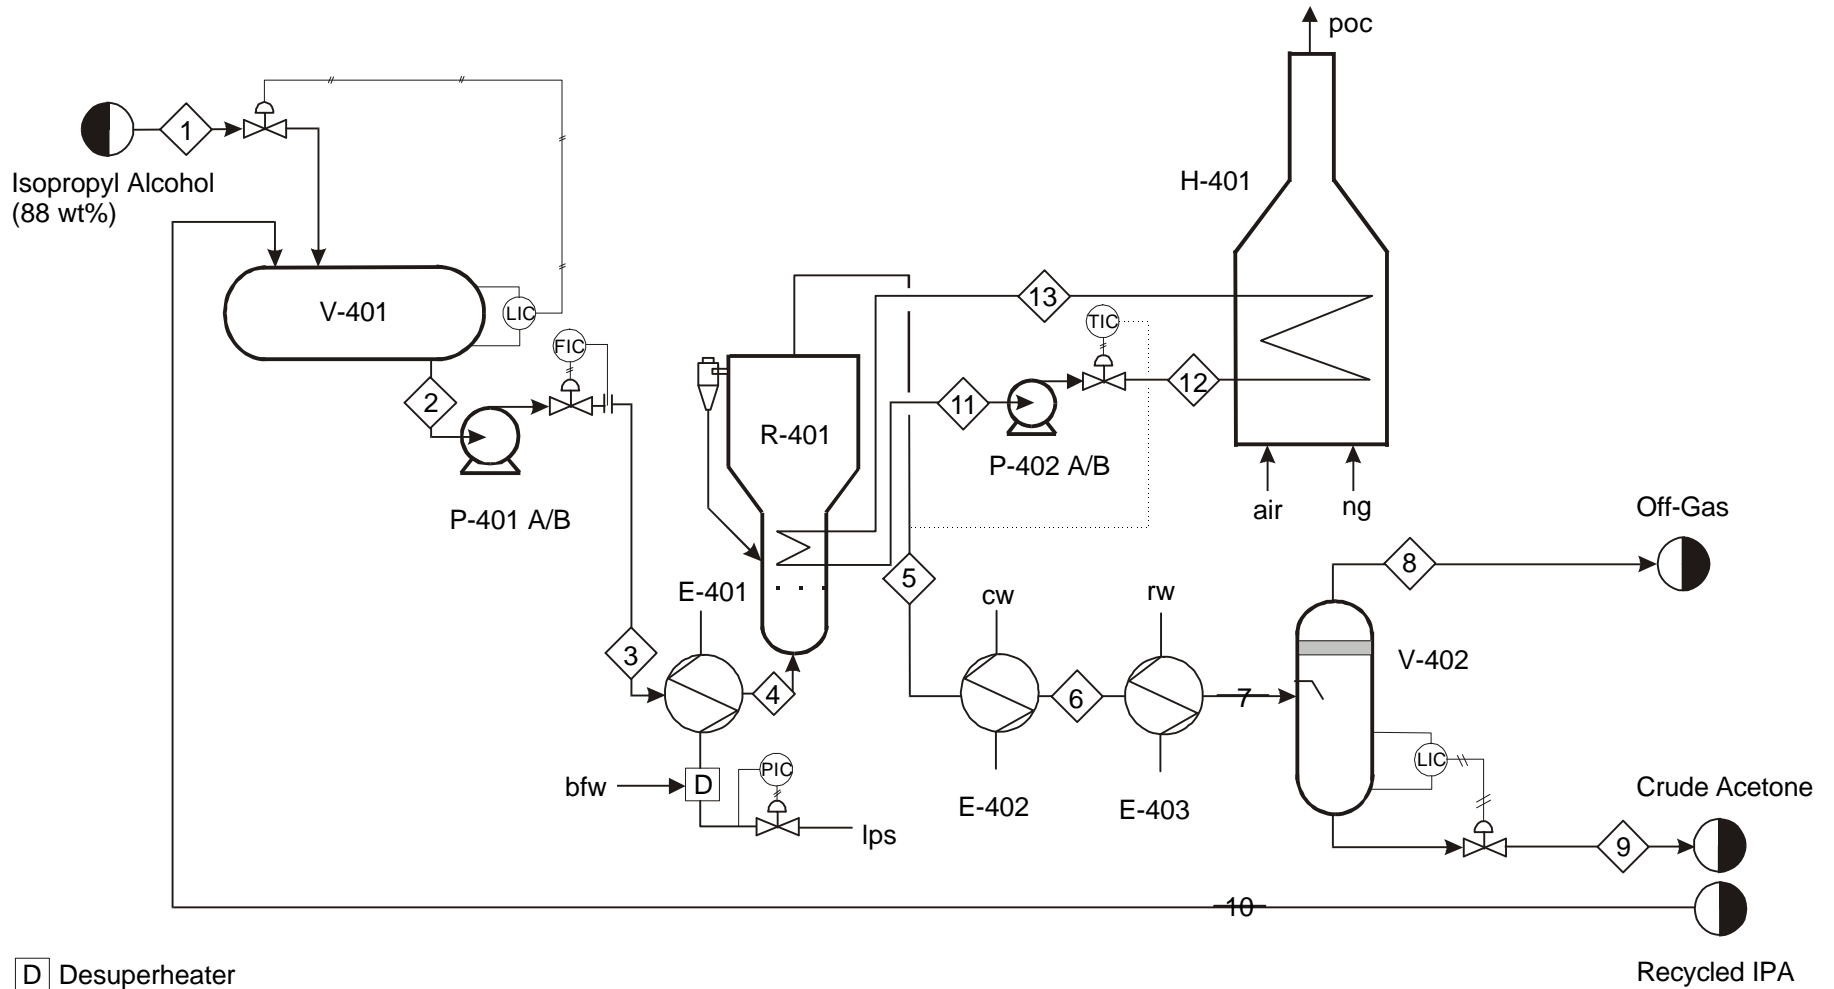

Figure 1: Preliminary Process Flow Diagram for the Production of Acetone
The PFD for the reaction section is given in Figure 1. Feed to the process consisting of liquid isopropanol, is mixed with recycle liquid isopropanol in V-401. The reactor feed stream must be a vapor at 2.16 bar and 101°C. Stream 3 should have a pressure of approximately 2.3 bar.
- Optimization of the Feed Section and Molten Salt Loop.** (ChE 110) Refer to Figure 1. You are to size P401 A/B and P-402 A/B and determine the optimum pipe sizes for Streams 1-3 and 11-13. Different streams may have different pipe diameters. Isopropanol in Stream 1 is fed from the bottom of a feed tank 20 m away. Pipe runs are at 5 m elevation off the ground, and you should add 90° elbows as necessary. The molten salt loop pipe lengths total 20 m with a 4 m elevation change and eight 90° elbows. Assume that all units are connected by 5 m pipe equivalent length. The objective function is the Equivalent Annual Operating Cost (EAOC) of the feed section and the molten salt loop (\$/y). The *EAOC* is defined as: